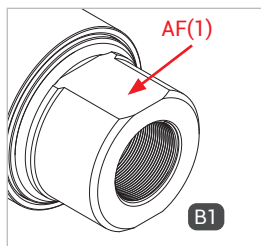

Figure 1
- ▶ When mounting media hose line, hold an open-ended wrench against the wrench size AF(1) (Figure 1).
- ▶ Screw the "B1" media inlet pressure-tight to the port for the media hose line (Figure 1). For the tightening torque, please refer to the table below. **Note:** For NPT thread, first wrap Teflon tape round the tapered screw fitting (1.5 layers). Then screw the fitting finger-tight into the connection and install it in accordance with the information in the table below.